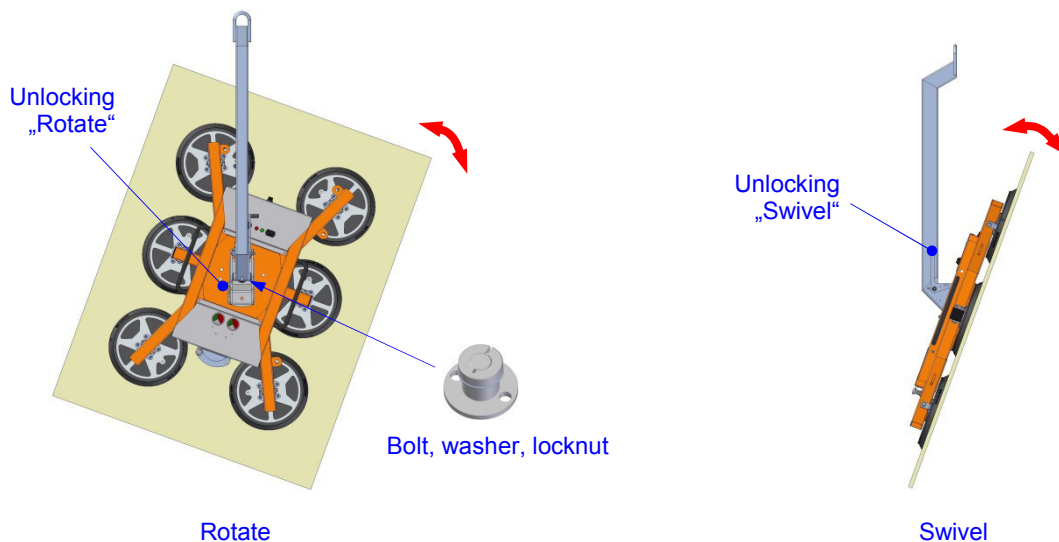

Fig. 8: Rotating and swiveling a load (standard crane arm)
In order to avoid unintended rotating of the load, you have to ensure that the release lever “Rotate” (see fig. 8) is completely locked in place during the swiveling movement!
Never attempt to release unlocking “Swivel” (see fig. 8) when loaded! This would lead to uncontrolled “swivelling down” of the load!
- ⇒ Remove the locknut and the washer (see fig. 8 and 9),
- ⇒ Remove the bolt (see fig. 8 and 9).